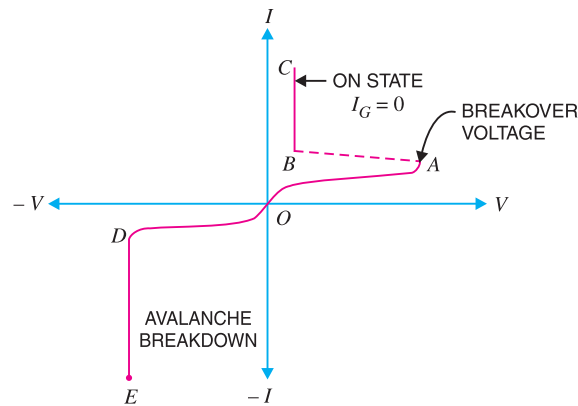

Fig. 20.7
It is the curve between anode-cathode voltage (V) and anode current (I) of an SCR at constant gate current. Fig. 20.7 shows the V-I characteristics of a typical SCR.
(i) **Forward characteristics.** When anode is positive *w.r.t.* cathode, the curve between V and I is called the forward characteristic. In Fig. 20.7, OABC is the forward characteristic of SCR at $I_G = 0$. If the supply voltage is increased from zero, a point is reached (point A) when the SCR starts conducting. Under this condition, the voltage across SCR suddenly drops as shown by dotted curve AB and most of supply voltage appears across the load resistance R_L . If proper gate current is made to flow, SCR can close at much smaller supply voltage.